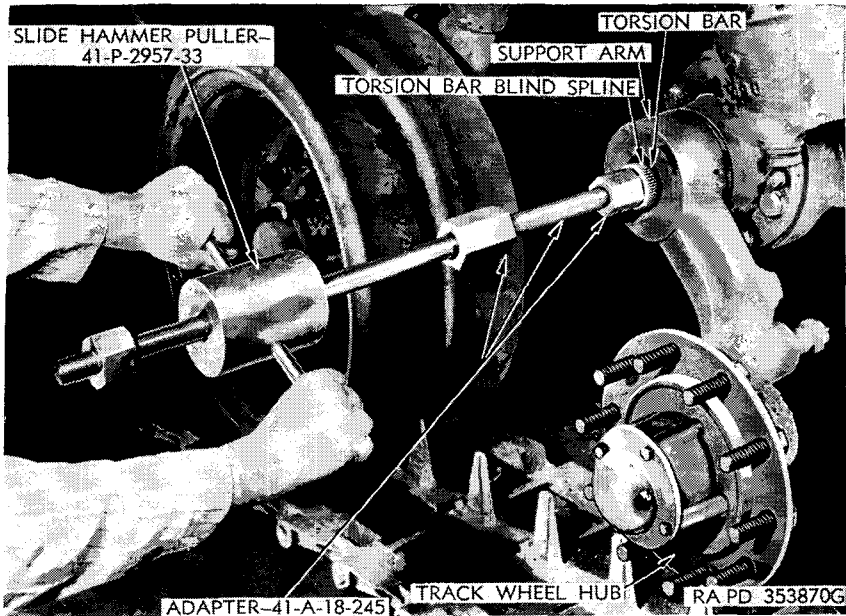

Figure 150. Removing torsion bar.
- (4) *Remove torsion bar.* Remove screw which holds torsion bar to bar retaining nut. Remove bar retaining nut. Screw adapter—41-A-18-245 for slide hammer into torsion bar, being sure that stud is screwed all the way into bolt and that hex shoulder of adapter seats on bolt head. Attach slide hammer puller—41-P-2957-33 to adapter and pull torsion bar out of support arm (fig. 150).